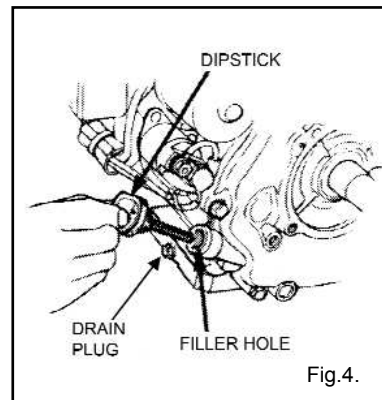

Fig.4.
- 3.2.2. Unscrew the oil filler cap and wipe the dipstick clean. (See Fig.4.)
4.2. CHANGING THE ENGINE OIL - Fig.4.